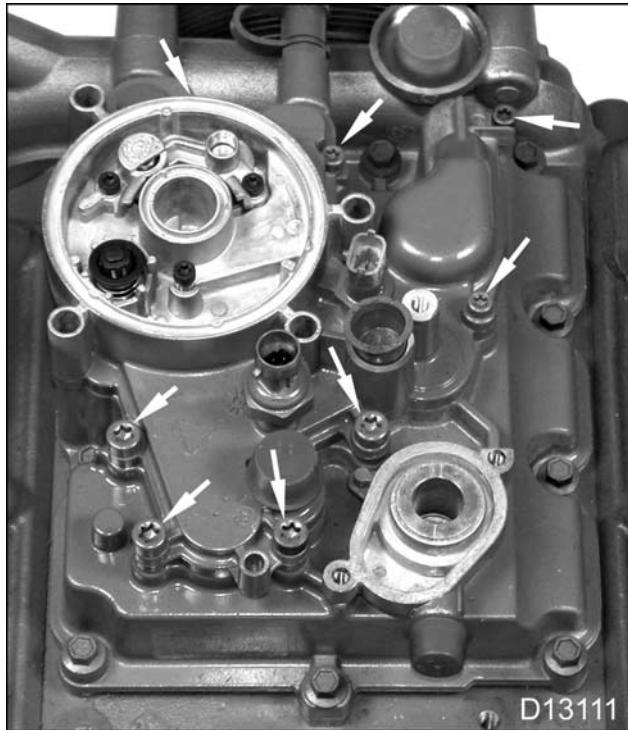

Figure 357 Installing oil filter base bolts
4. Install five M8 x 23 bolts, and three M6 x 25 bolts into the oil filter base assembly (Figure 357). Tighten all bolts to the special torque (Table 25).